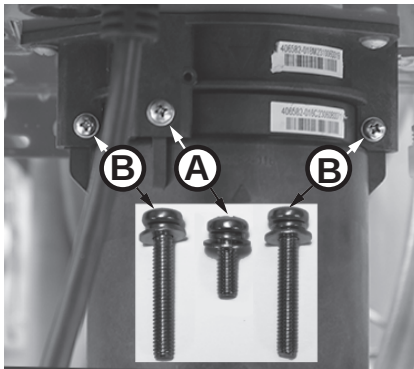

Figure 123 - Identify cartridge screws
- 6 Locate the three (3) screws securing the X3®/Bypass cartridge as shown in Figure 123. Remove the **(A)** M4-12mm screw and the two **(B)** M4-25mm screws from cartridge. Place screws aside in a safe place for reinstallation.